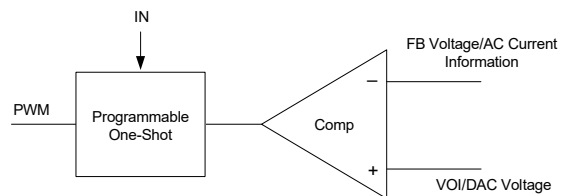

Figure 9. Simplified Control Schematic
The control algorithm of AOZ2233CQI-24 is constant-on-time PWM control with input feed-forward. The simplified control schematic is shown in Figure 9. The high-side switch on-time is determined solely by a one-shot whose pulse width is inversely proportional to input voltage (IN). The one-shot is triggered when the internal VOI/DAC voltage is higher than the combined information of output voltage and the AC current information of inductor, which is processed and obtained through the sensed low-side MOSFET current once it turns-on. The added AC current information can help the stability of constant-on time control even with pure ceramic output capacitors, which have very low ESR. The AC current information has no DC offset, which does not cause offset with output load change, which is fundamentally different from other  $V^2$  constant on-time control schemes.